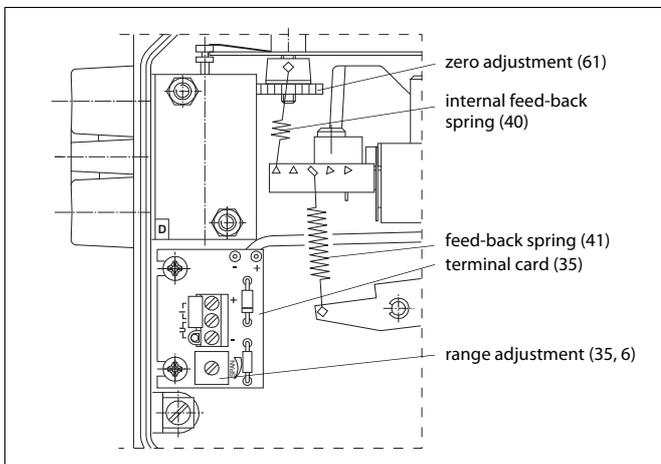

Fig. 12 Zero and range adjustments
1. Switch on the supply pressure (S) and the input signal (+/-). Note the correct polarity.
2. Set the input signal at the closed limit of the valve so that it is 2 % i.e. 0.3 mA higher or lower than the limit value, e.g. $4 + 0.3 = 4.3$ mA or $20 - 0.3 = 19.7$ mA. Turn the zero adjustment nut (61) with a screwdriver or fingers so that the actuator comes slowly to the closed limit. The valve should open slightly with a 4 % change in signal, that is 0.6 mA, e.g. $4 + 0.6 = 4.6$ mA or $20 - 0.6 = 19.4$ mA. See Figures 12 and 13.
5. Screw on the pointer (32) into place so that the yellow line is in the direction of the valve closing member. Tighten the screw (57).